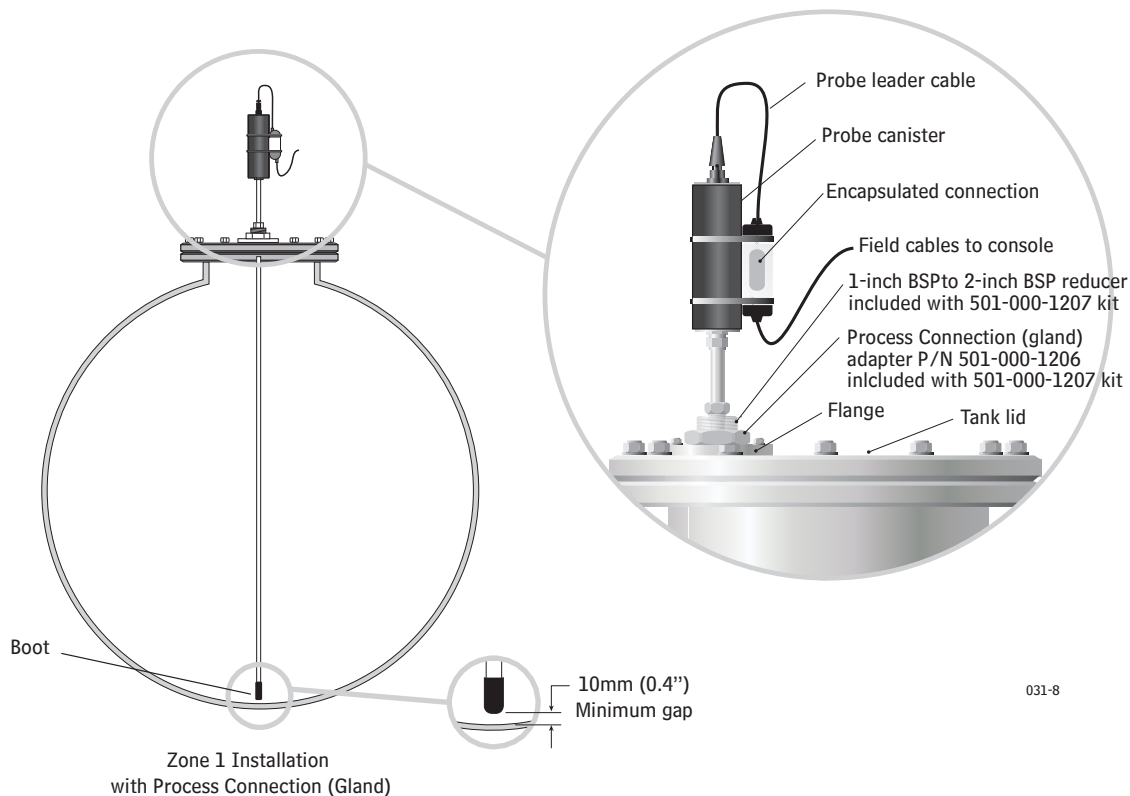

Figure 14. Installation Of A Mag Probe With A Process Connection (Gland)
Certain installations may require a modified probe mounting arrangement consisting of a process connection (gland) mounted directly to the tank lid as shown in Figure 14. Either a dedicated tapping or a suitable flange, tapped G2 inch 11 tpi to DIN 2999 (BS2779) must be provided.
2. Reference Figure 14 to identify the hardware required to complete this installation.